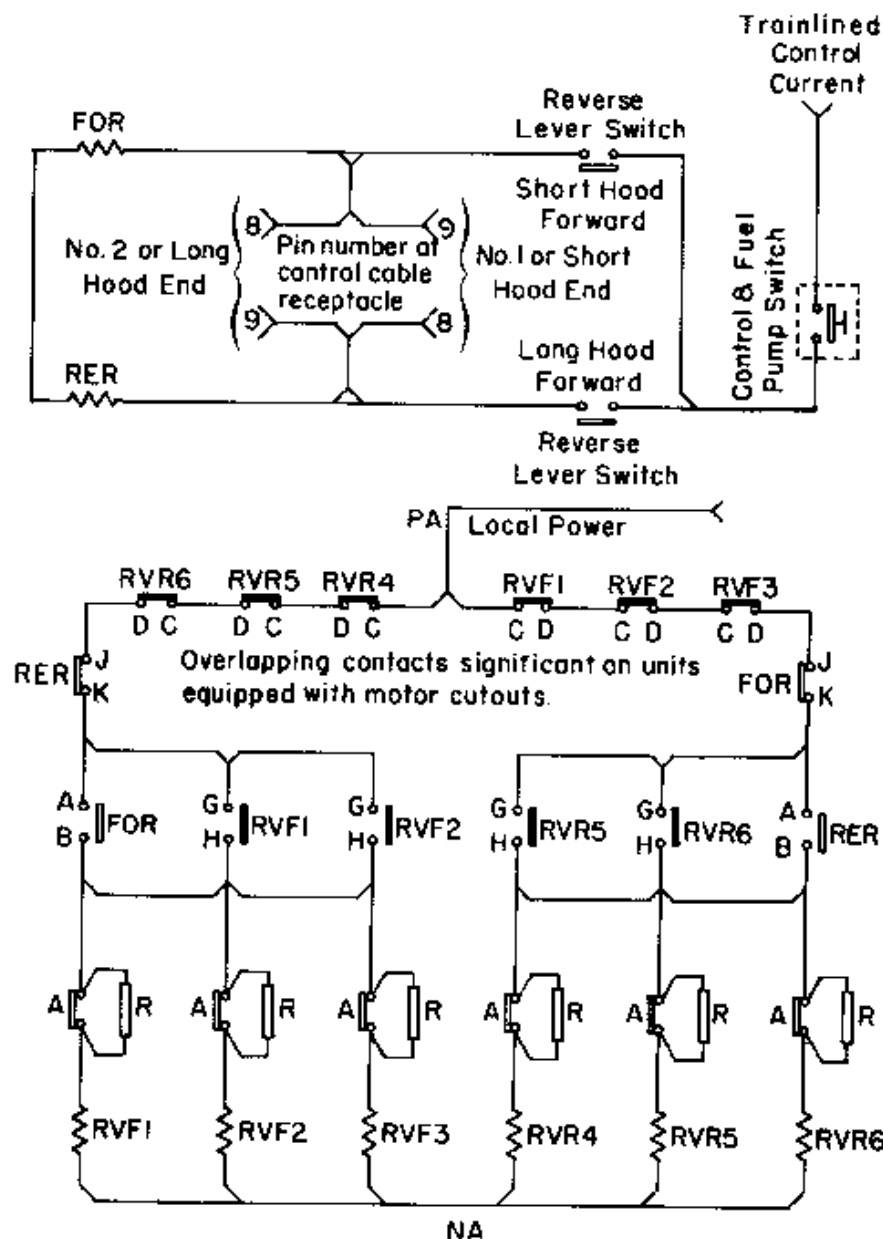
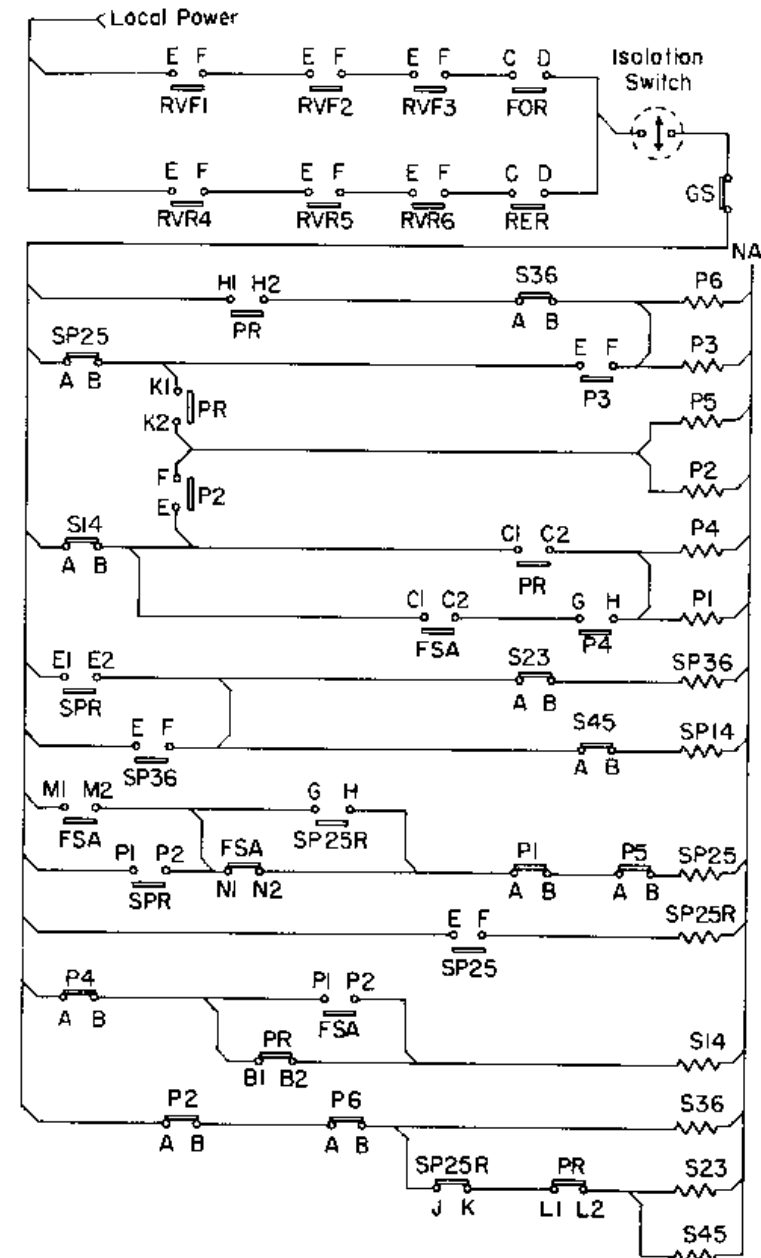

Fig. 6-5 - Directional Control Circuits
Fig. 6-6 - Motor Connect Control
DIRECTIONAL CONTROL CIRCUITS, Fig. 6-5
MOTOR CONNECT CONTROL, Fig. 6-6
From Fig. 6-6, it can be seen that the series and parallel power contactors can not be energized until the reverse lever and the isolation switch have been positioned for operation, and the generator start contactor is de-energized. Control current flows through GS contacts, through P2 and P4 A-B interlocks and through other interlocks to the coils of the series power contactors.
1. With reverse lever in neutral position, engine running, control and local control circuit breakers closed, control and fuel pump switch closed, generator field switch in ON position, and throttle in IDLE position, all reversing and power contactors remain dropped out, Fig. 6-5 and Fig. 6-6.